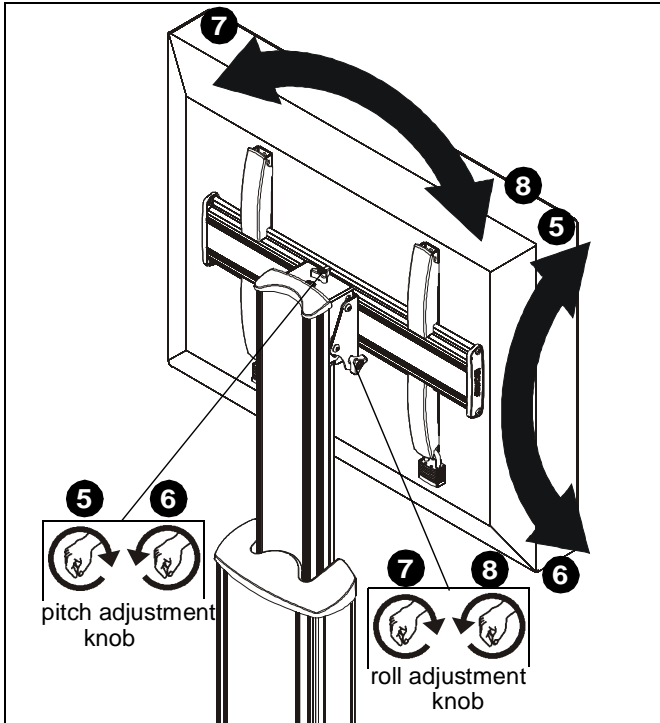

Figure 18
5. Turn pitch adjustment knob clockwise to tilt display forward. (See Figure 18)
6. Turn pitch adjustment knob counterclockwise to tilt display back. (See Figure 18)
7. Turn roll adjustment knob clockwise to adjust roll to the left. (See Figure 18)
8. Turn roll adjustment knob counterclockwise to adjust roll to the right. (See Figure 18)